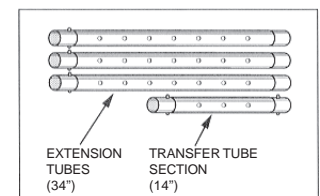

Figure 6
A. Button to button, each Extension Tube Section extends a total of 4' 8", and the Transfer Tube Section extends 15½", allowing the Junior Power Stretcher to extend a total of 22' 7" with the AutoLok Tube fully extended. (See figure 6)